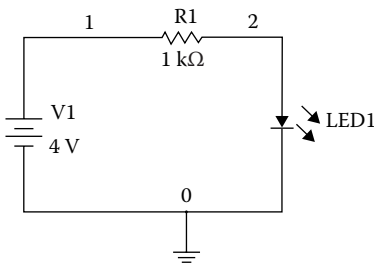

FIGURE P1.2
Problem 1.2 For the resistor–LED circuit shown in Figure P1.2, (1) determine the voltage drop across the LED. (2) Calculate the current flowing through the LED. Use green LED. (3) Compare the voltage drop across the green LED to that obtained for the red LED of Example 1.2.